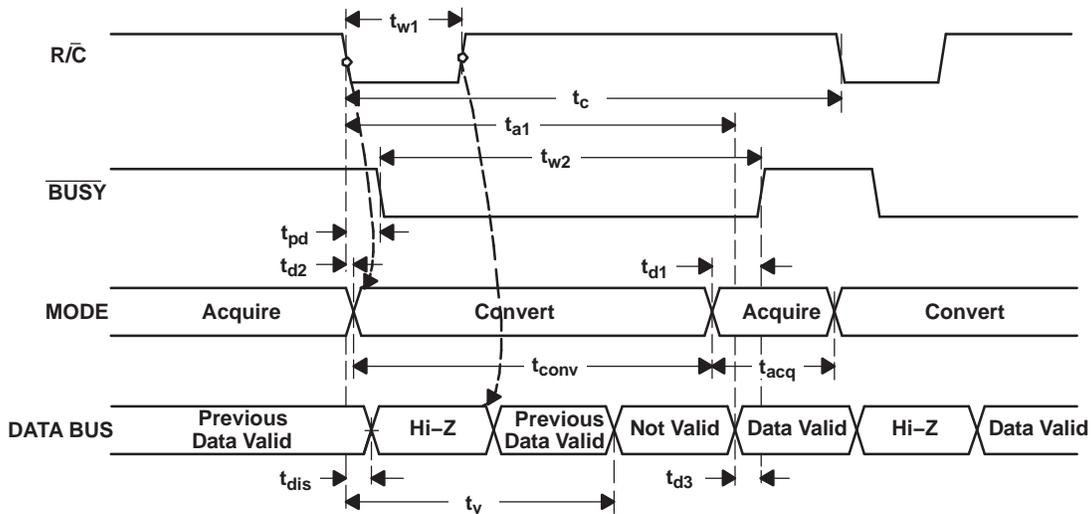
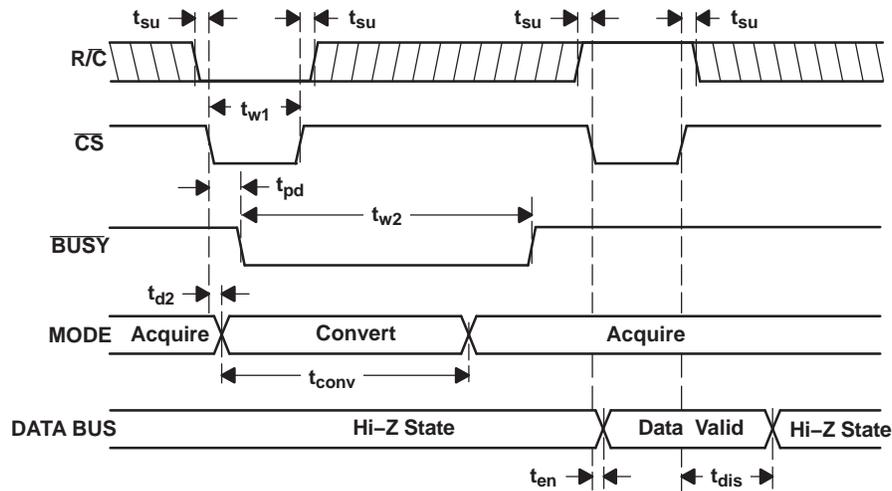
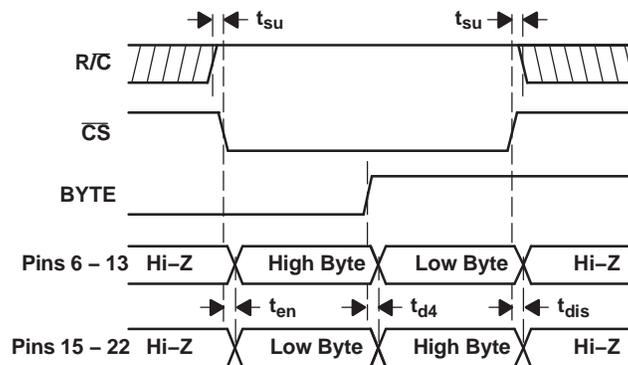

Figure 21. Conversion Timing with Outputs Enabled after Conversion (\overline{CS} Tied Low)
Figure 22. Using \overline{CS} to Control Conversion and Read Timing
Figure 23. Using \overline{CS} and BYTE to Control Data Bus
The ADS8515 begins tracking the input signal at the end of the conversion. Allowing 4 μs between convert commands assures accurate acquisition of a new signal. Refer to Table 1 for a summary of \overline{CS} , $\overline{R/C}$, and \overline{BUSY} states and Figure 21, Figure 22, and Figure 23 for the timing diagrams.
(1) See Figure 21 and Figure 22 for constraints on data valid from conversion $n - 1$.
After conversion n is completed and the output registers have been updated, $\overline{\text{BUSY}}$ (pin 26) goes high. Valid data from conversion n are available on D15 to D0 (pins 6 to 13 and 15 to 22). $\overline{\text{BUSY}}$ going high can be used to latch the data. Refer to Table 3 and Figure 21, Figure 22, and Figure 23 for timing specifications.
After conversion n has been initiated, valid data from conversion -1 can be read and are valid up to t_2 after the start of conversion n . Do not attempt to read data from t_2 after the start of conversion n until $\overline{\text{BUSY}}$ (pin 26) goes high; this may result in reading invalid data. Refer to Table 3 and Figure 21, Figure 22, and Figure 23 for timing specifications.
The number of control lines can be reduced by tying $\overline{\text{CS}}$ low while using the falling edge of $\overline{\text{R}/\overline{\text{C}}}$ to initiate conversions and the rising edge of $\overline{\text{R}/\overline{\text{C}}}$ to activate the output mode of the converter. See Figure 21.